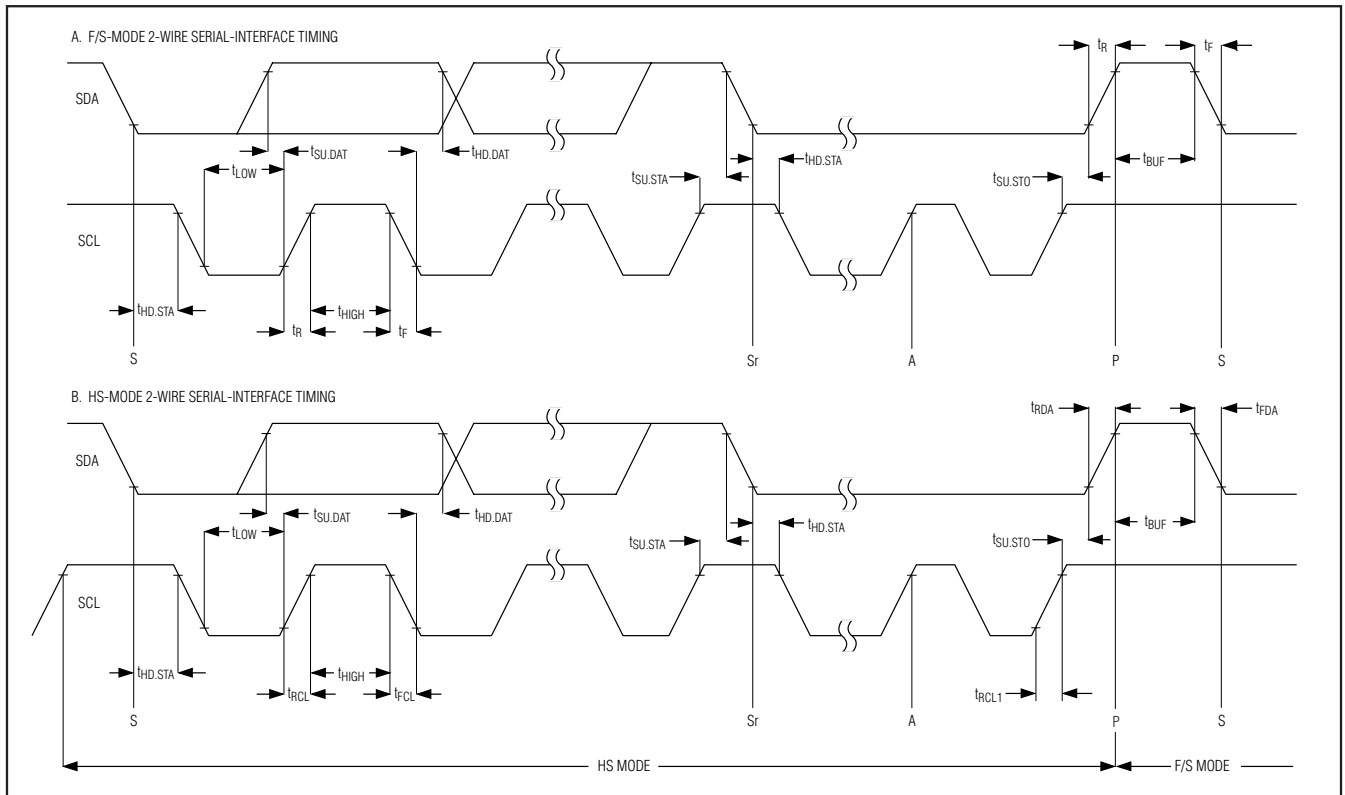

Figure 1. 2-Wire Serial-Interface Timing
### TIMING CHARACTERISTICS (Figure 1)
### TIMING CHARACTERISTICS (Figure 1) (continued)
**Note 10:** A master device must provide a data hold time for SDA (referred to  $V_{IL}$  of SCL) to bridge the undefined region of SCL's falling edge (see Figure 1).
At power-up, the MAX11612-MAX11617 bus timing is set for fast-mode (F/S mode), which allows conversion rates up to 22.2ksps. The MAX11612-MAX11617 must operate in high-speed mode (HS mode) to achieve conversion rates up to 94.4ksps. Figure 1 shows the bus timing for the MAX11612-MAX11617's 2-wire interface.